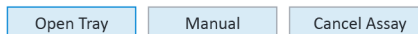

Figure 13. Cartridge Barcode Read Failure dialog box
For any Sensor Cartridge barcode read errors, Wave Controller displays a message and a choice of three corrective actions. (See **Figure 13**.)
- 1 Click the Tray Widget. Cartridge Barcode Read Failure dialog box appears. (See Figure 13 on page 35.)